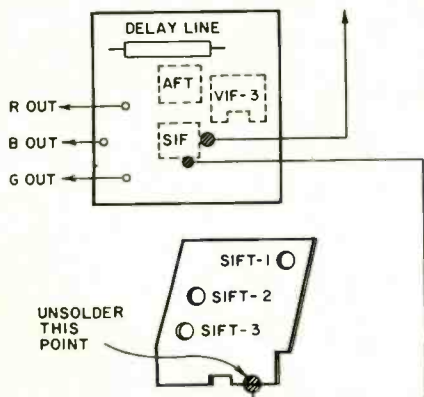

Fig. 2
2. Unsolder the single ground point for the SIF shield case as shown in Fig. 2.—*Sony Service Supplement*